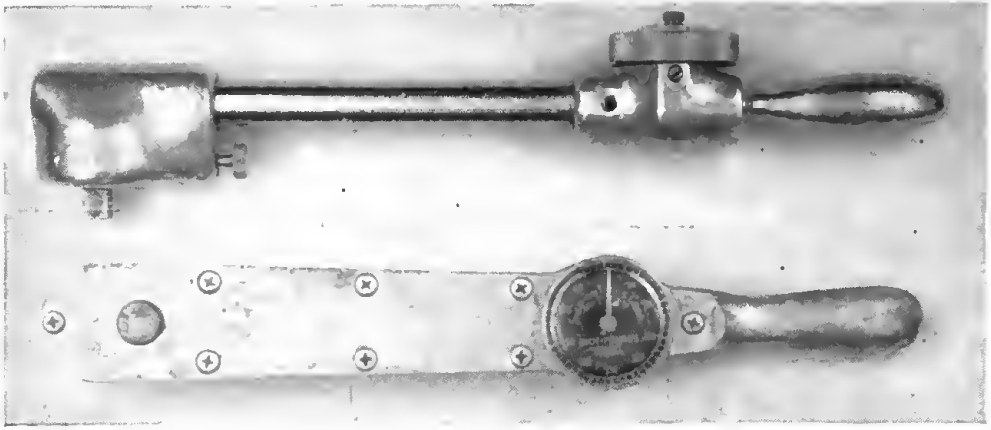

Figure 19. Torque wrenches.
b. TORQUE WRENCH. (1) A torque wrench is similar in operation to the ratchet handle of a socket wrench. It is made with a strong spring connection between the handle and the socket attachment. As the handle is pulled, the spring bends. The amount of bend is proportional to the torque applied. A gauge, located on the wrench handle, registers the amount of torque. The gauge is calibrated in inch-pounds. Some of the gauges have a floating pointer which is moved by the gauge pointer but the floating pointer remains at the point of maximum torque until set back to zero by the mechanic. Torque wrenches are usually manufactured to register a maximum of 250 or 3,500 inch-pounds. (See fig. 19.)
(2) A torque wrench enables a mechanic to tighten a nut with exactly the proper amount of torque. If a nut is left too loose, it does not hold securely. If it is tightened too tight, it may pull the bolt in two, strip the threads, or put an unnecessary and possibly dangerous strain on the members being held together. If a set of nuts (such as those which hold on a cylinder head) are not all tightened with the same torque, internal stresses will be set up in the cylinder head. These stresses may cause eventual failure of the cylinder head. Check after check has shown that structural failure and rapid wear have been caused by improper tightening of nuts and bolts.